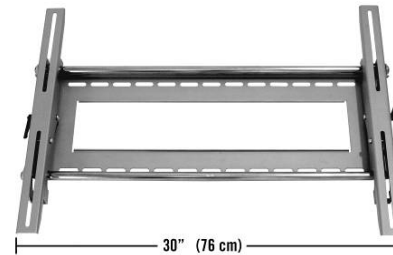

Fig. 17
1. The horizontal distance between the mounting holes on the display, causes the mounting rails to exceed the maximum 30" (76 cm) width of the standard wall plate. (Fig. 17)